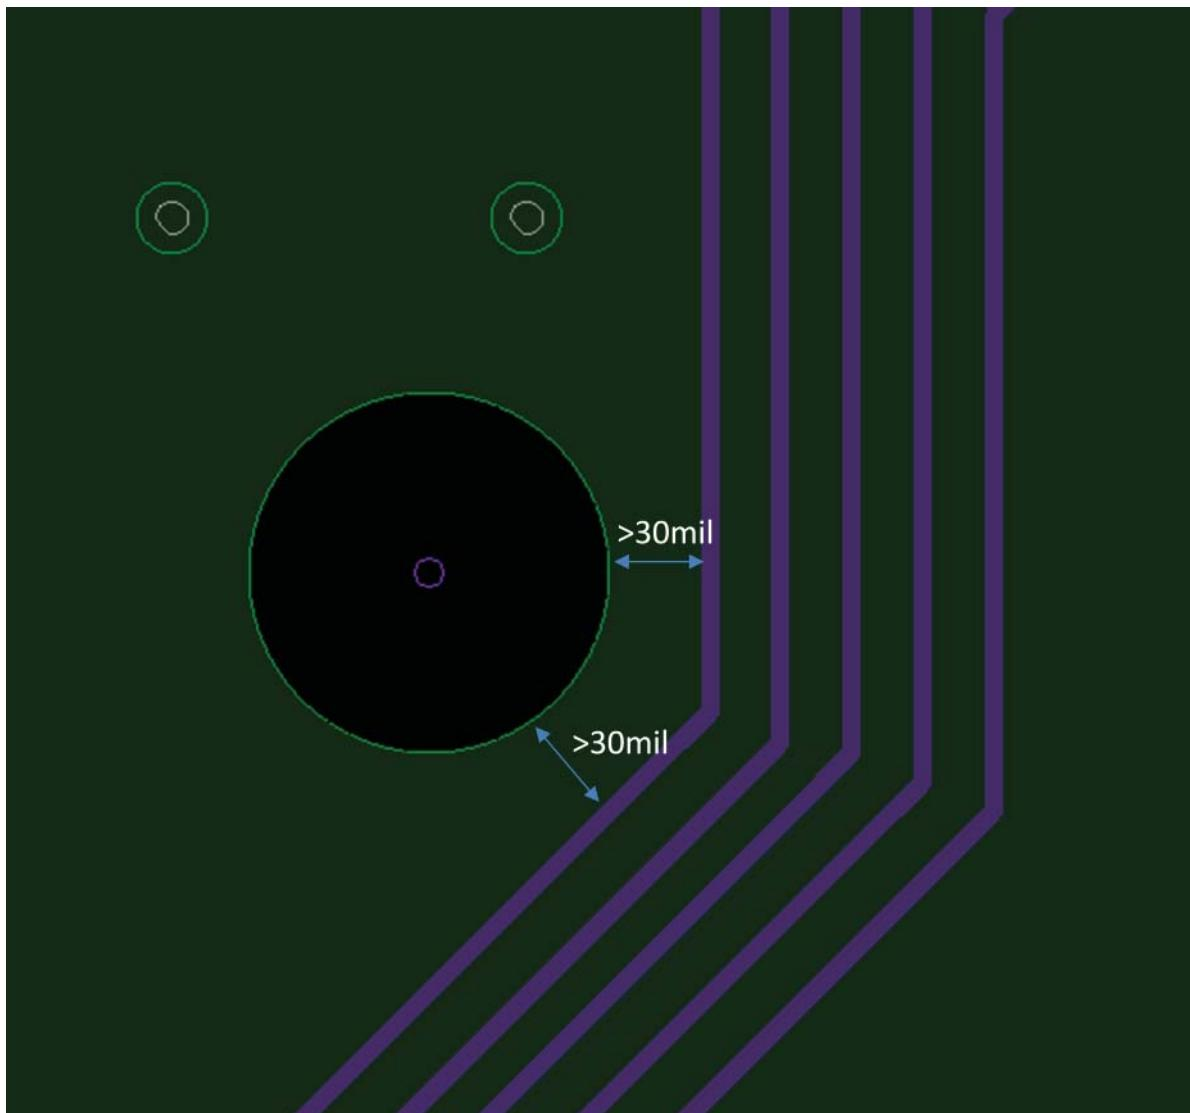

Figure A-2: Signal Routing Over Solid Reference Plane
6. Signal lines must be routed over a solid reference plane. Avoid routing over voids (Figure A-2).
8. Keep the routing at least 30 mils away from the reference plane and void edges with the exception of breakout regions (Figure A-2).